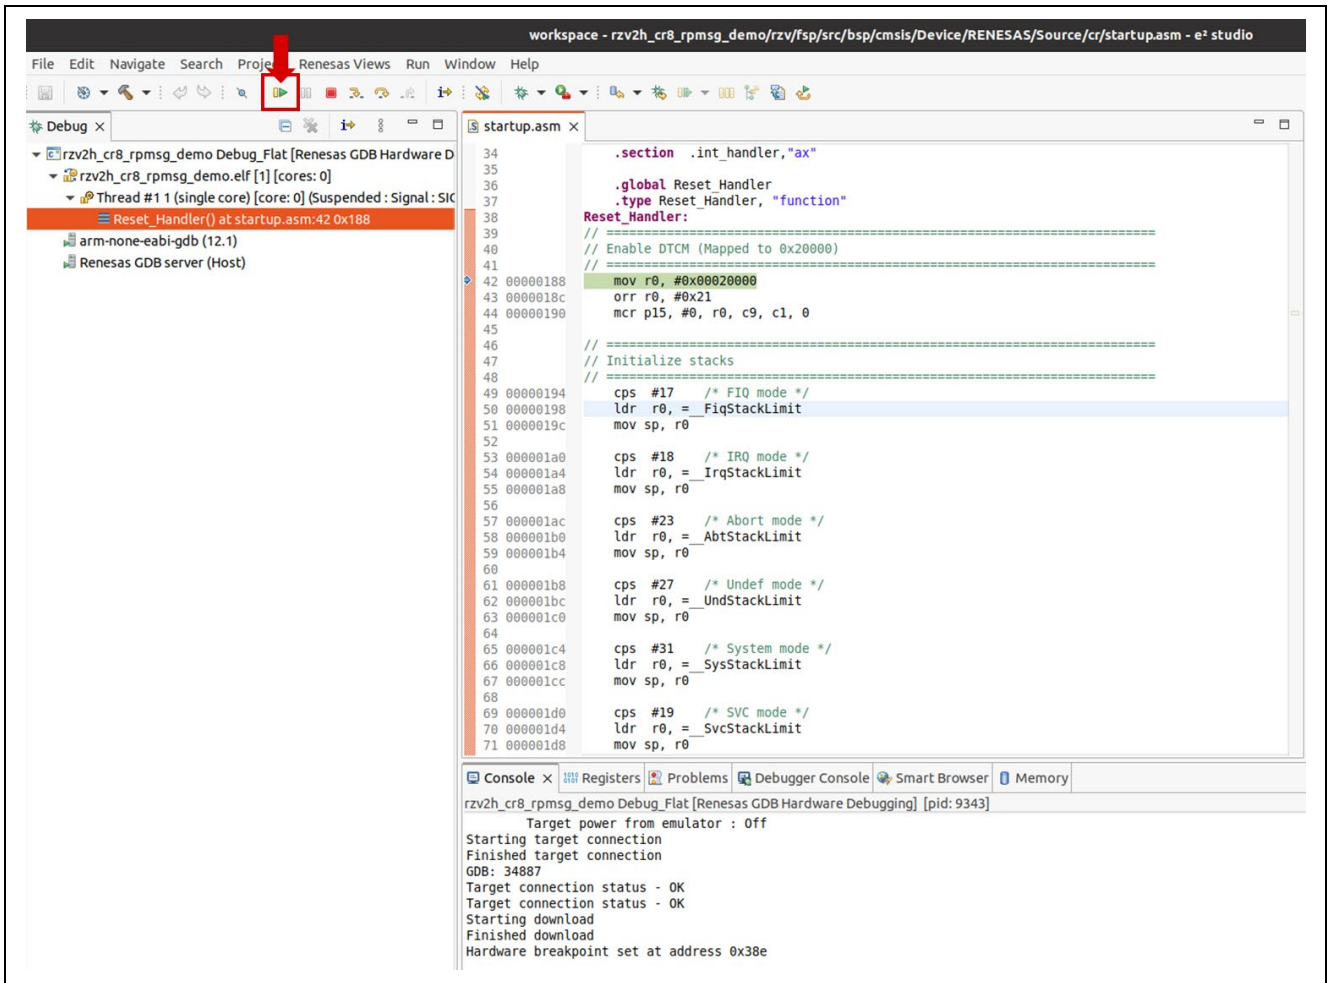

Figure 5-7. How to start to debug Sample Program (1)
- When the debug perspective is opened, Program Counter (PC) should be located at the top of Warm_Reset_S and Reset Handler for CM33 and CR8 e² studio project respectively. Then, you need to press the button in as shown in Figure 5-7.